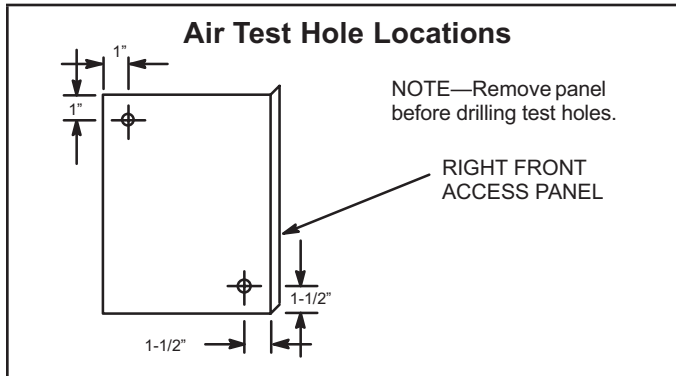

Figure 5. Air Test Hole Locations
2. Drill two 5/16" (8 mm) air test holes in the right front access panel; hole locations are shown in Figure 5. Replace the panel.